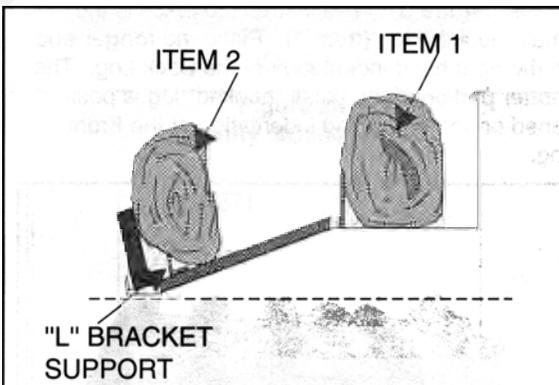
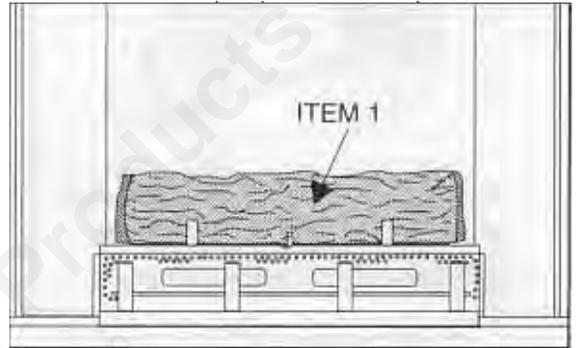

Figure 40
Figure 41
2. See Figure 41. Place the Back Log (Item 1) on the Back Log Support ensuring that the log is directly behind the sheet metal tabs. The flat surface of the log will be approximately 1/2" to 1" from the back of the firebox. (See Figure 40.)